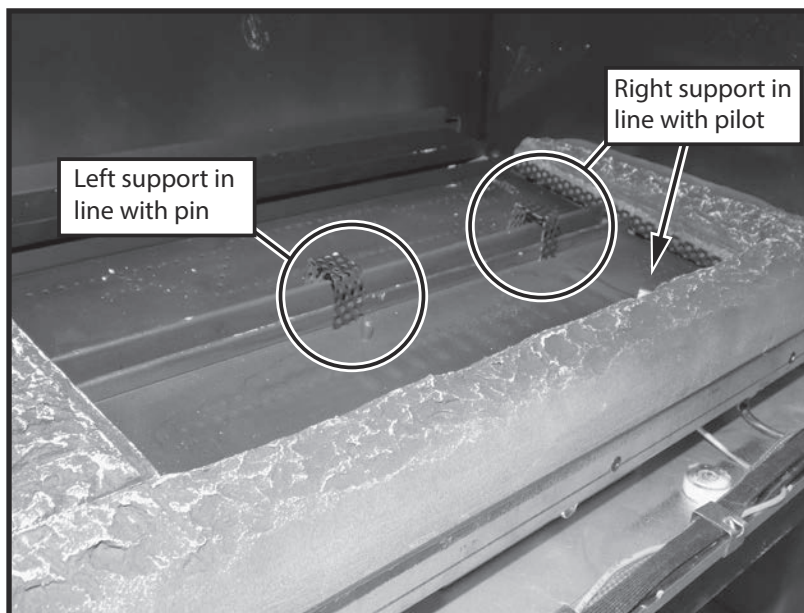

Figure 92: Supports for 2nd log.
5. Straddle the 2 2nd log supports between the rear of the front burner and the leading edge of the rear burner. Position them as shown in Figure 92.